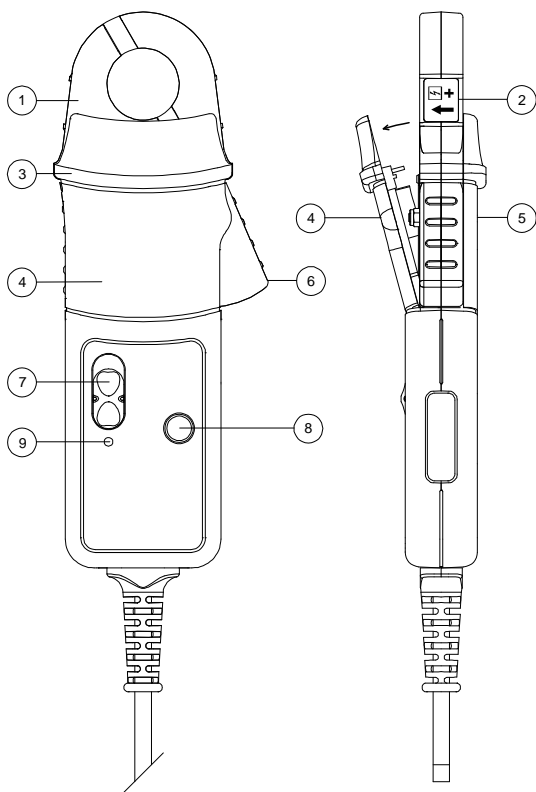

FIG 1
- Do not hold the probe anywhere beyond the tactile barrier see FIG 1.
The green or red LED will flash when the minimum operating voltage is approached. Refer to Fig.1. Use the following procedure.
Loosen the captive screw which secures the battery cover. Lift the cover through 30° and pull it clear of the probe body as shown in Fig 1. Replace the battery and re-fit the battery cover and fasten the screw .